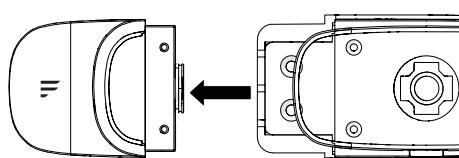

Fig. 31
4. Pull to remove the decorative part from traffic light and save in a safe place in case of future use. [Fig. 31]